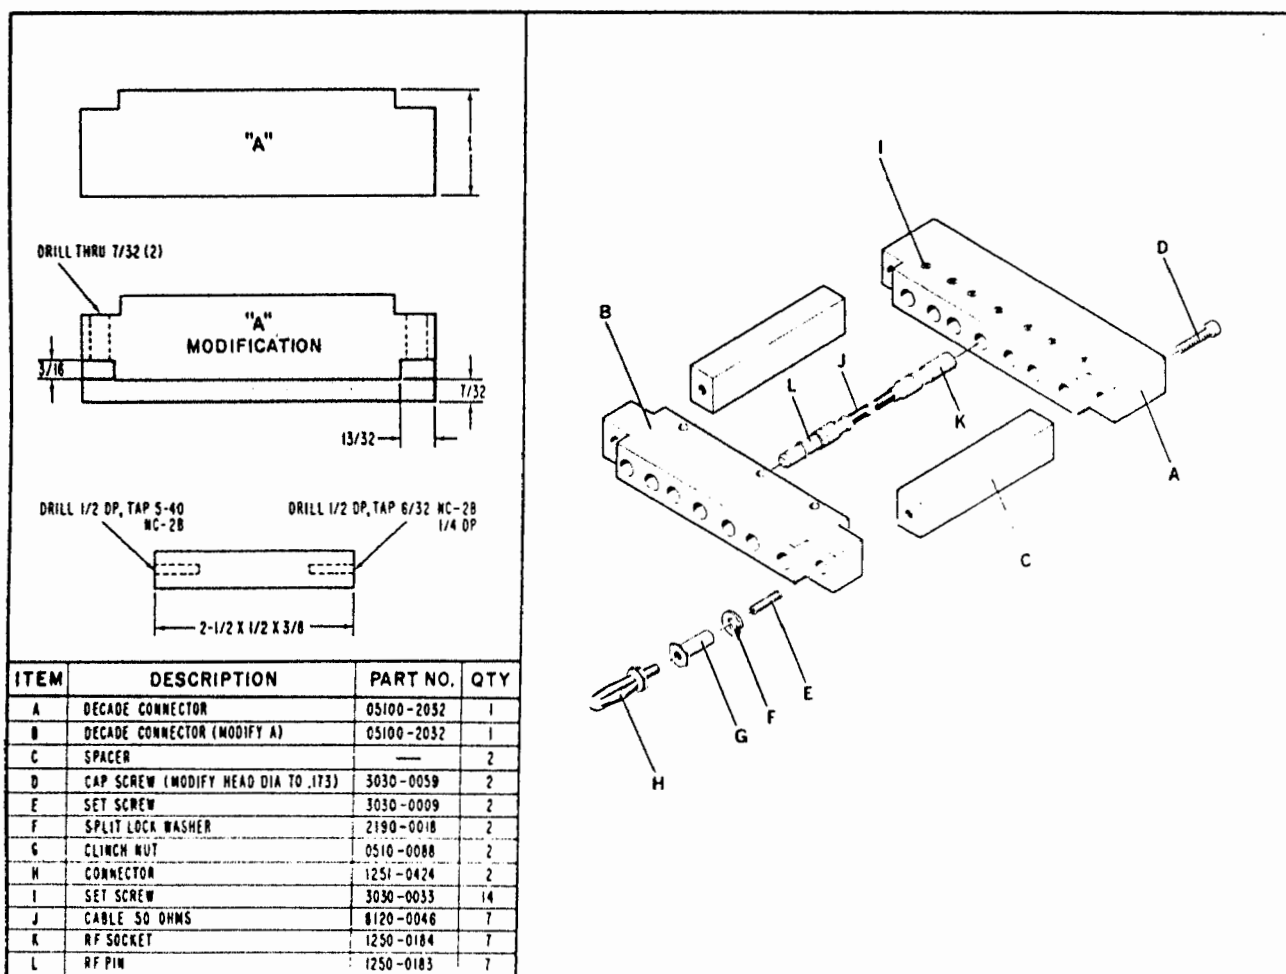

Figure 5-5. Extension Connector (Mixer Connector)
a. Remove the Module from the Model 5100A and supply it with power using the fabricated connector shown in Figure 5-5.
a. Remove the Mixer/Divider Module from the Model 5100A and connect it to its normal input with the extension connector diagrammed in Figure 5-5. Remove cover from Mixer/Divider Module.
a. Remove the Module from the Model 5100A and supply it with power using the fabricated connector as shown in Figure 5-5.